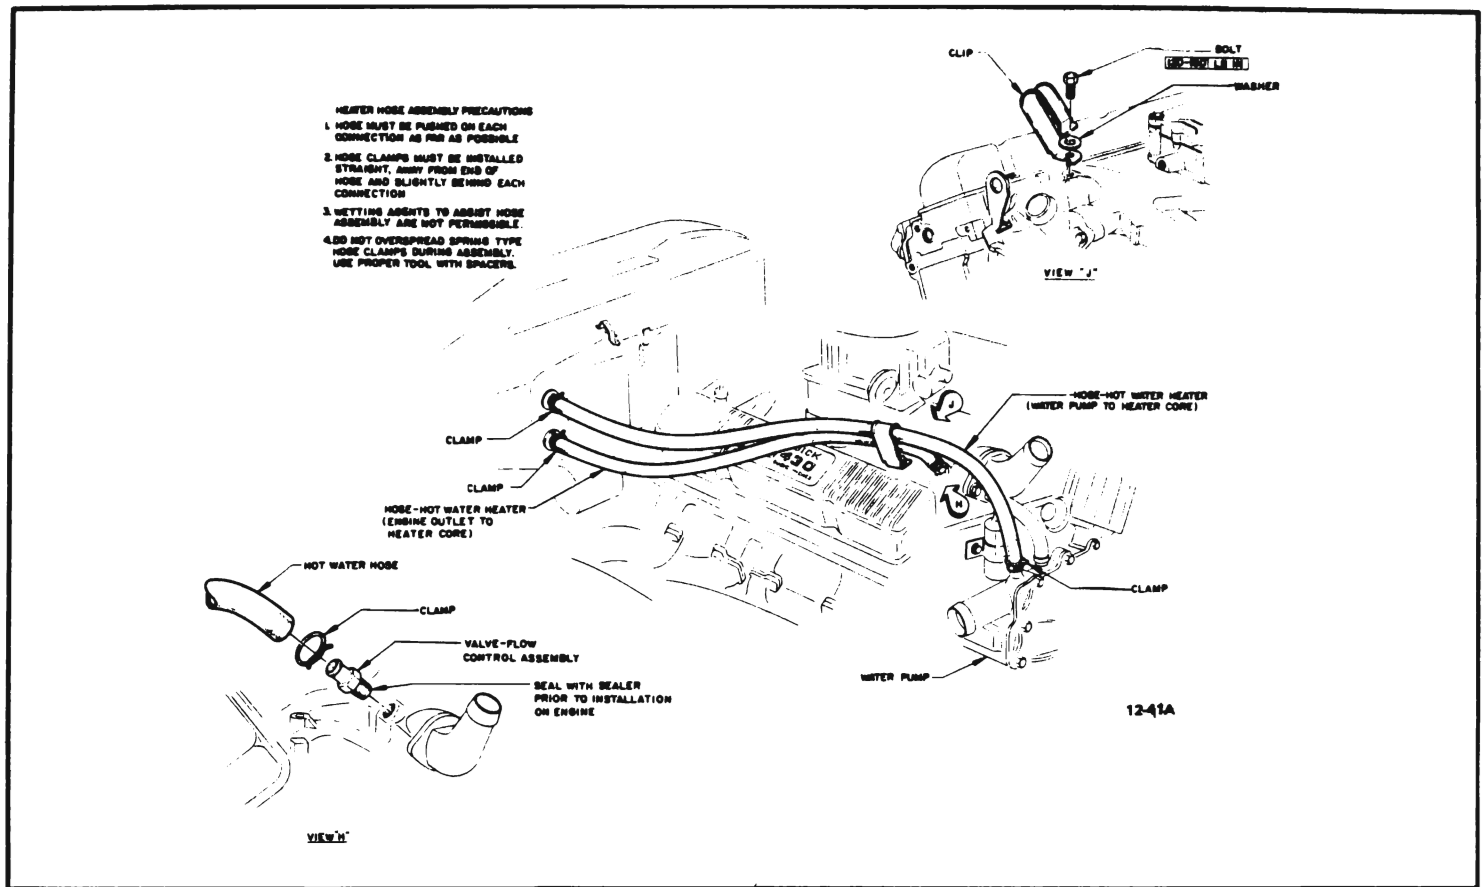

Figure 12-24 Heater Hose Installation
The flow of coolant through the heater system is as shown in Figure 12-24.
6. Disconnect heater inlet and outlet hoses at heater assembly. See Figure 12-24.